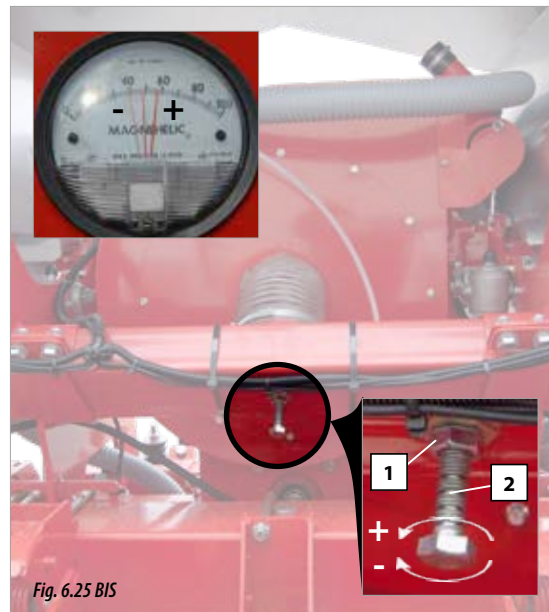

Fig. 6.25 BIS
The fan's suction power is measured using the vacuum gauge (Fig. 6.25). Depending on the type of seed, it is recommended to adjust the suction power using the next table:
- 1- Loosen the nut (1, Fig. 6.25 BIS).
- 2- Turn the screw to change the fan suction (2, Fig. 6.25 BIS).
AFTER CHANGING THE POSITION OF THE ADJUSTING VALVE, CHECK THE PRESSURE VALUES USING THE VACUUM GAUGE (FIG. 6.25). IF NECESSARY, ADJUST THE FAN'S TURNING SPEED TO ADAPT THE PRESSURE VALUES TO THE ONES IN THE TABLE OF SECTION 6.4 SUCTION SYSTEM-FAN.